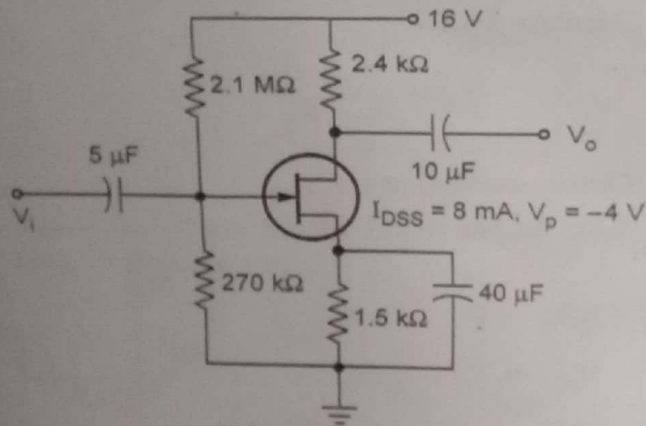

Fig. Q.24.1
Q.24 Determine I_{DQ} , V_{GSQ} , V_D , V_S , V_{DS} and V_{DG} for the network of Fig. Q.24.1.